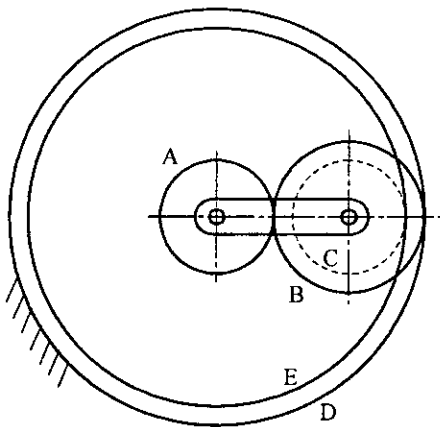

Fig. 7.46
7. The fig. 7.46 shows an epicyclic gear train. Pinion A has 15 teeth and is rigidly fixed in the motor shaft. The wheel B has 20 teeth and gears with A and also with annular fixed wheel D. Pinion C has 15 teeth and is integral with B (C and B being a compound wheel). Gear C meshes with annular wheel E, which is keyed to the machine shaft. The arm rotates about the same shaft on which A is fixed and carries the compound wheel B-C. If the motor runs at 100 rpm, find the speed of the machine shaft. Find also the torque exerted on the machine shaft if the motor develops a torque of 100 N-m.